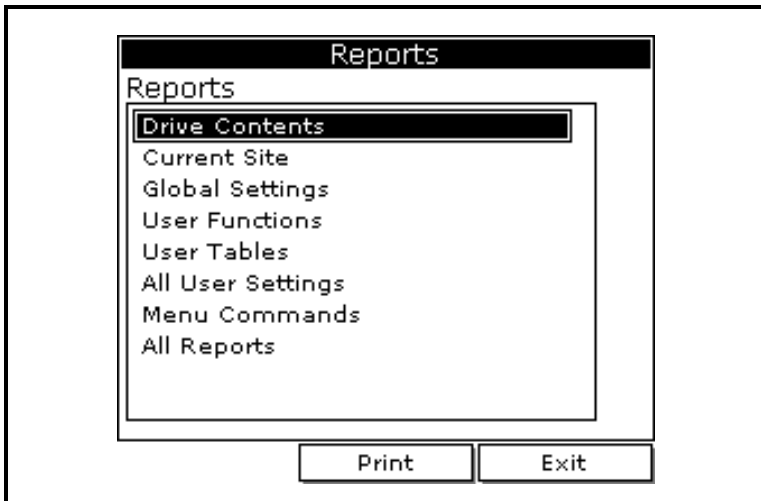

Figure 7-3: The Reports Window
3. Use the arrow keys to scroll to **Reports** and press [ENTER]. A screen similar to Figure 7-3 below appears.